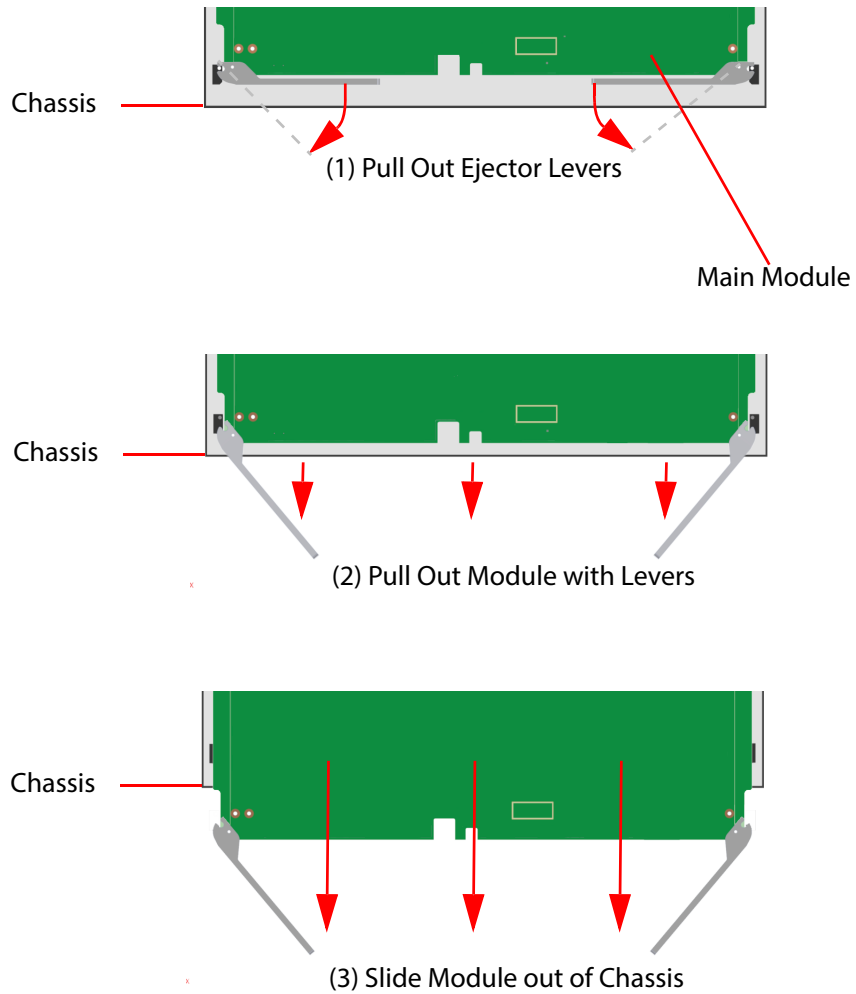

Figure 110 Removing MV-820 Multiviewer Main Module
5. Remove the front module by pulling on the two module eject levers, which hinge on the left and right. See Figure 110.